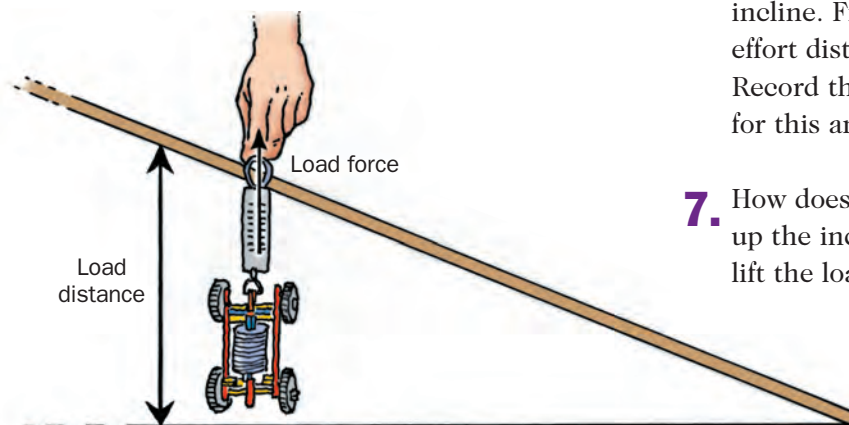

Figure 11.3 How to measure load force and load distance
2. In this inquiry, you are asked to lift a cart, or load, a vertical distance of 0.10 meter (m) each time. This vertical distance to which you lift the cart is called the *load distance*. The force you need to exert to lift the cart straight up is called the *load force*. Figure 11.3 shows how to measure load force and load distance.